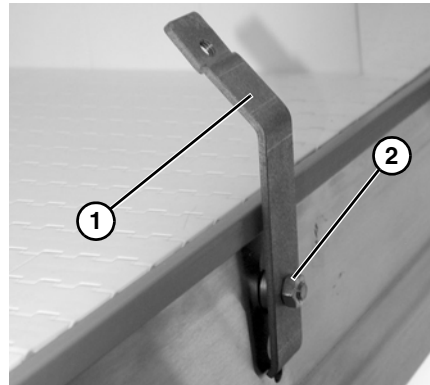

Figure 29
2. Attach the guide mounting brackets (**Figure 29, item 1**) to the conveyor with hex nuts (**Figure 29, item 2**). Hand tighten only at this time.